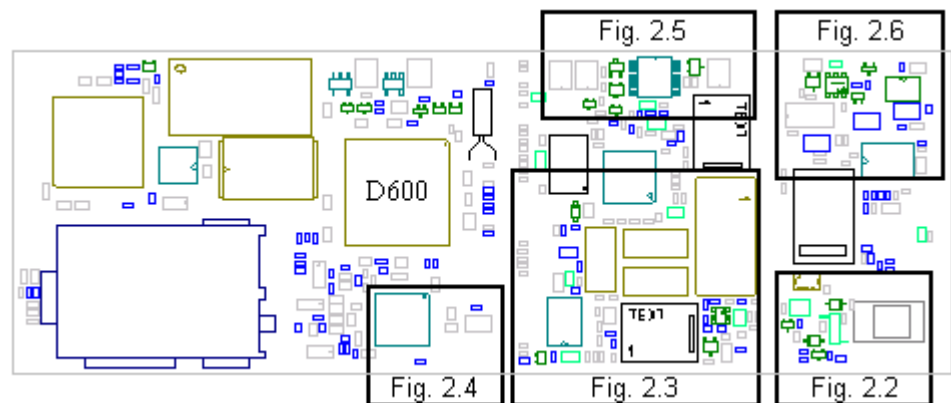

Fig. 2.1
The component side of the board is shown in fig. 2.1.
- If the feed voltage is incorrect (usually no voltage at all), check the soldering at D600 pin 102 (fig. 2.1).
- * If the phone passes the test but doesn't manage to connect a call at the "real" net, make sure that it isn't because it is stolen. If it isn't, replace D600 (class B, fig. 2.1).